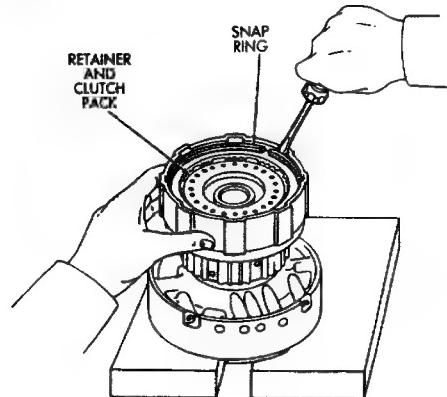

Fig. 4 Removing Retainer And Clutch Pack
(5) Apply compressed air through right side feed hole in support and note piston stroke length on dial indicator.
(6) Stroke length should be: 3.73 to 4.59 mm (.1469 to .1807 in) on 6-cyl. transmissions and 3.42 to 4.23 mm (.1346 to .1665 in) on 4-cyl. transmissions.
(7) Replace clutch discs if stroke length is incorrect.
(8) Remove clutch pack snap ring and remove retainer and clutch pack (Fig. 4).